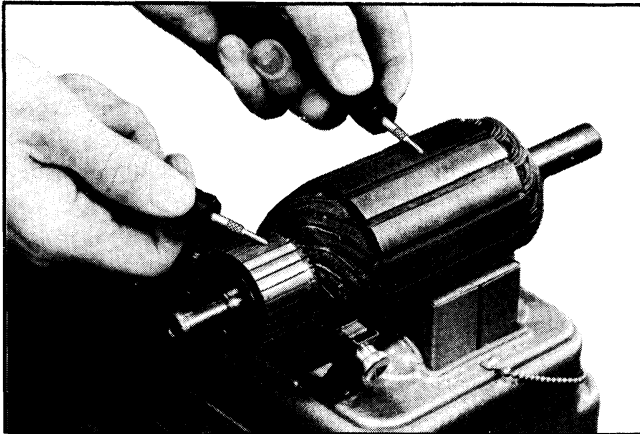

Fig. 11-7 Testing Armature for Ground
3. Ground—Grounds in the armature can be detected by the use of 110-volt test lamp and test points. If the lamp lights when one test point is placed on the commutator with the other point on the core or shaft (Fig. 11-7), the armature is grounded. Grounds occur as a result of insulation failure which is often brought about by overheating of the starting motor produced by excessive long cranking periods or by accumulation of brush dust between the commutators bars and the steel commutator ring.